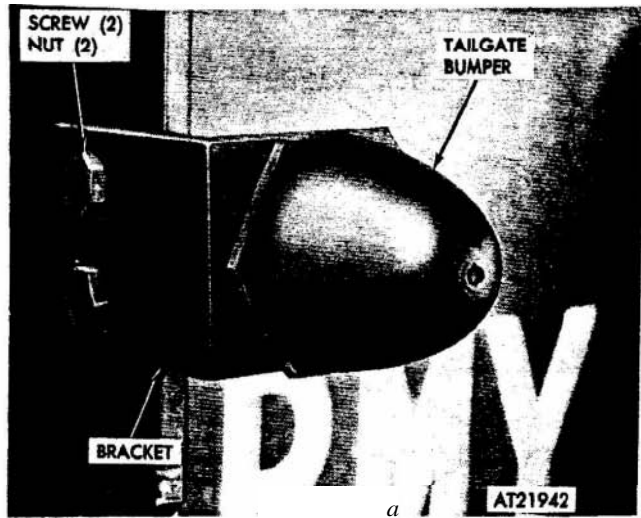

Figure 2-289. Tailgate bumpers (stops), removal and installation.
(1) Remove nut and washer securing bumper to bracket. Remove bumper (fig 2-289).
(2) Remove nuts and screws securing bracket to hull. Remove bracket.
(1) Position bracket to hull and secure with screws and nuts (fig 2-289).
(2) Insert tailgate bumper mounting stud in hole of bracket and secure with nut and washer.